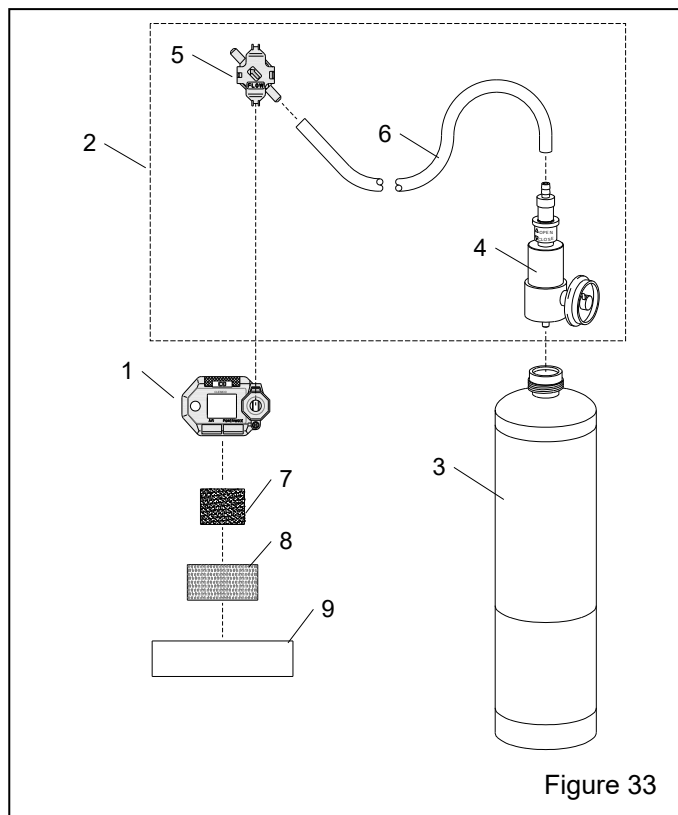

Figure 33
8.1 System Replacement Parts, Figure 33